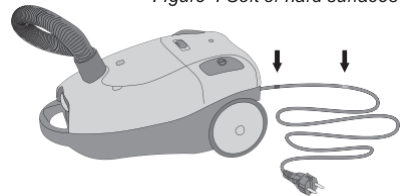

Figure 5 Markings on the power cord
6. The power cord has a yellow and red mark, see Figure 5. Pull out the cord to the yellow mark.